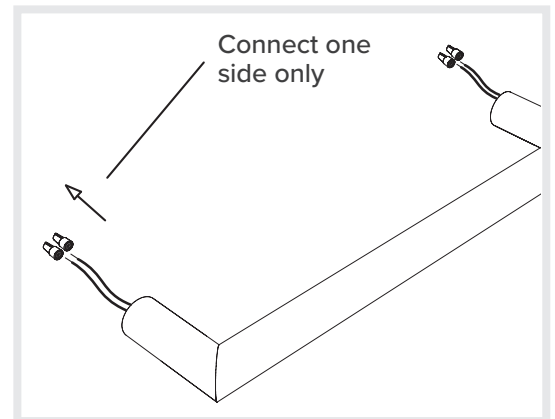

Figure 4.0
- Use a level to determine the correct position for the blocks at the non-cabled end. See *Figure 4.0*